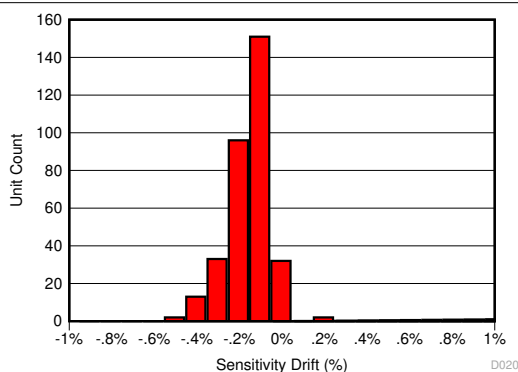
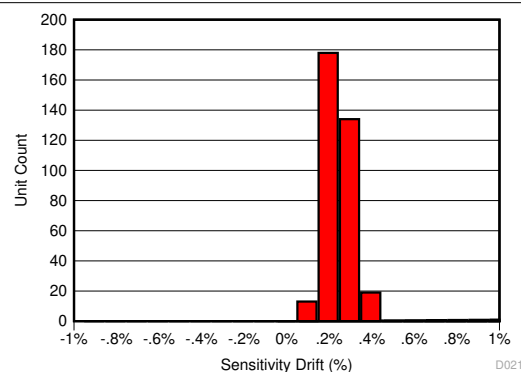

Figure 9-1. Sensitivity Error After 130°C, 85% RH HAST
Figure 9-2. Sensitivity Error Drift After AEC-Q100 High Temperature Operating Life Stress Test
The same compensation techniques utilized in the TMCS1107 to reduce temperature drift also greatly reduce lifetime drift due to aging, stress, and environmental conditions. Typical magnetic sensors suffer from up to 2% to 3% of sensitivity drift due to aging at high operating temperatures. The TMCS1107 has greatly improved lifetime drift, as defined in the Electrical Characteristics table for total sensitivity error measured after the worst-case stress test during a three lot AEC-Q100 qualification. All other stress tests prescribed by an AEC-Q100 qualification caused lower than the specified sensitivity error, and were within the bounds specified within the Electrical Characteristics table. Figure 9-1 shows the total sensitivity error after the worst case stress test, a Highly Accelerated Stress Test (HAST) at 130°C and 85% relative humidity (RH), while Figure 9-2 and Figure 9-3 show the sensitivity and offset error drift after a 1000 hour, 125°C high temperature operating life stress test as specified by AEC-Q100. This test mimics typical device lifetime operation, and shows the likely device performance variation due to aging is vastly improved compared to typical magnetic sensors.